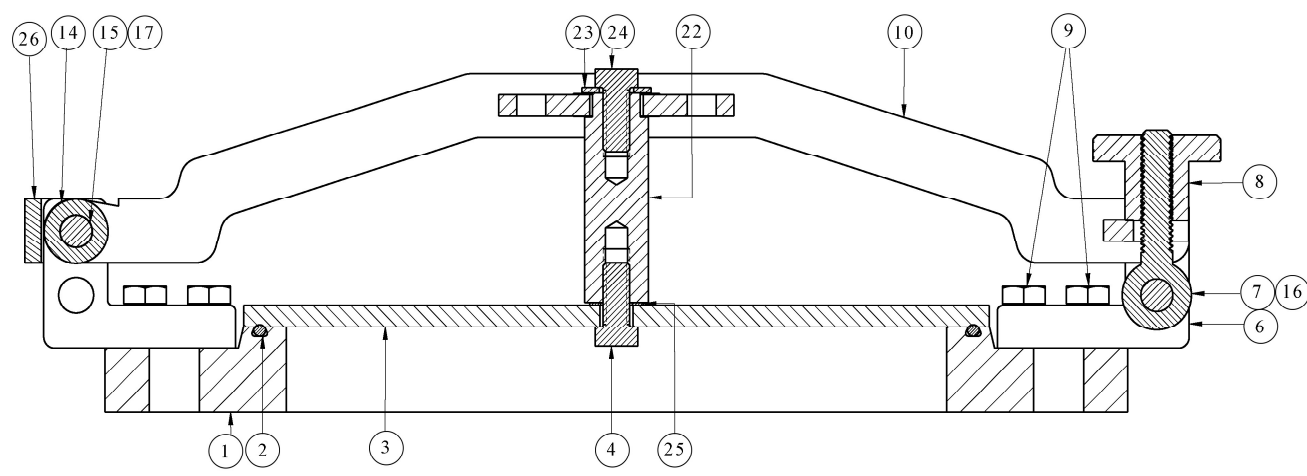

Figure 1: Gauge Hatch Model
Annually replace the pressure o-ring (2). Refer to figures 1 & 2.